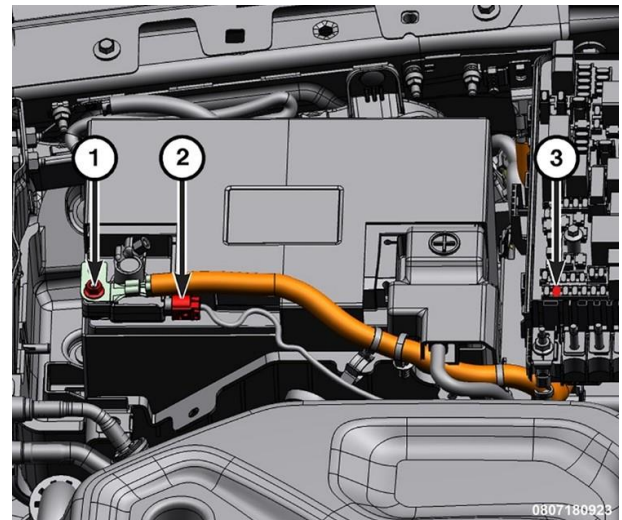

Figure 8 – 12-Volt Battery
13. Disconnect the IBS wire harness connector. Remove and isolate the battery negative cable using Covers, HEV Battery Terminal 2035100082 (Figure 8).